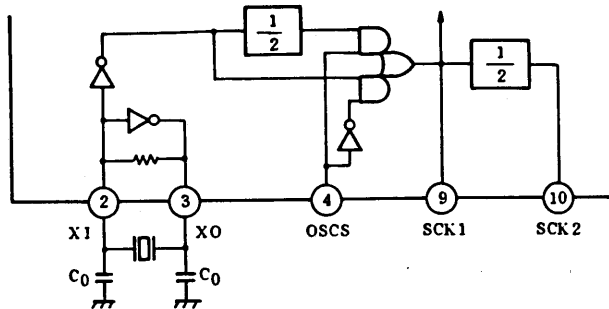

Fig. 1
- X'tal. capacitors connected as shown in Fig. 1.